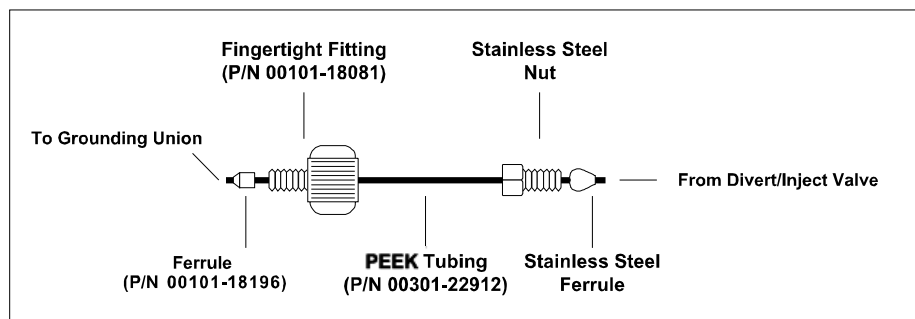

Figure 43. ESI/MS plumbing connections for the divert/inject valve and grounding union
8. Connect an appropriate length of (red) PEEK tubing (transfer line from the divert/inject valve) from the divert/inject valve to the (stainless steel) grounding union, as follows. See Figure 43.